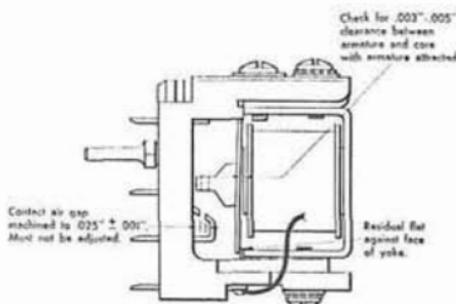

Figure 16
- Figure 16. Contact air gap is machined to $.025" \pm .001"$ and should not be adjusted. Any attempt to change this gap will result in an out-of-parallel condition and prevent proper contact in all positions. Check for clearance of $.003"$ to $.005"$ between the armature and core with armature attracted. Adjustment for this clearance involves forming the center section of the armature. The residual must be flat against the face of the yoke, and the armature and core must be free of dirt or metal chips to insure good operation. Position the yoke to provide approximately $.050"$ travel at free end of armature. This is merely a starting point and may be changed to satisfy subsequent adjustments.